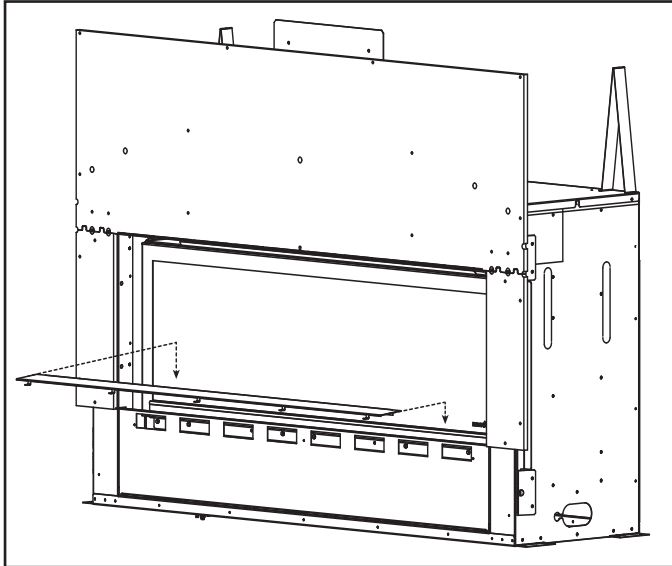

Figure 11.16 Install Bottom Vanity Panel
- Install bottom vanity panel between glass and glass frame. See Figure 11.16.